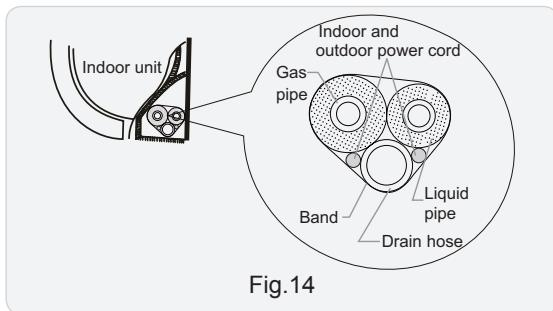

Fig.14
(1) Bind up the connection pipe, power cord and drain hose with the band. (As show in Fig.14)